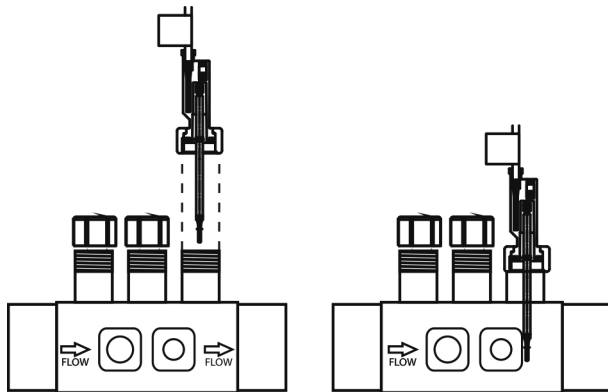

Fig. 10b
2. Install the flow detector (flow switch) supplied vertically in the sensor holder supplied with the equipment (Fig. 10b).